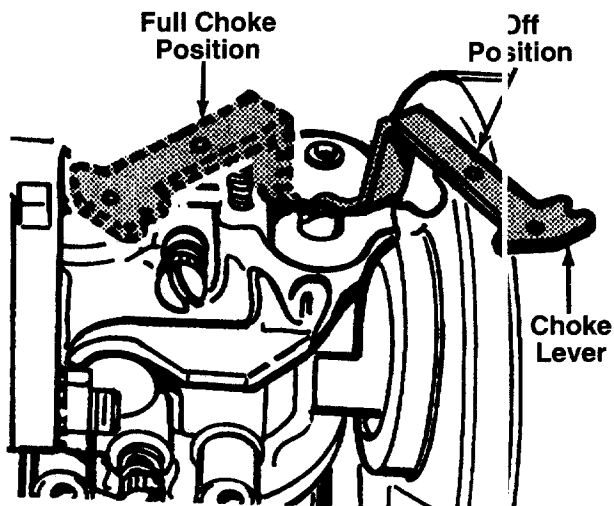

FIGURE 14.
- Move choke lever to full choke position as in figure 14.